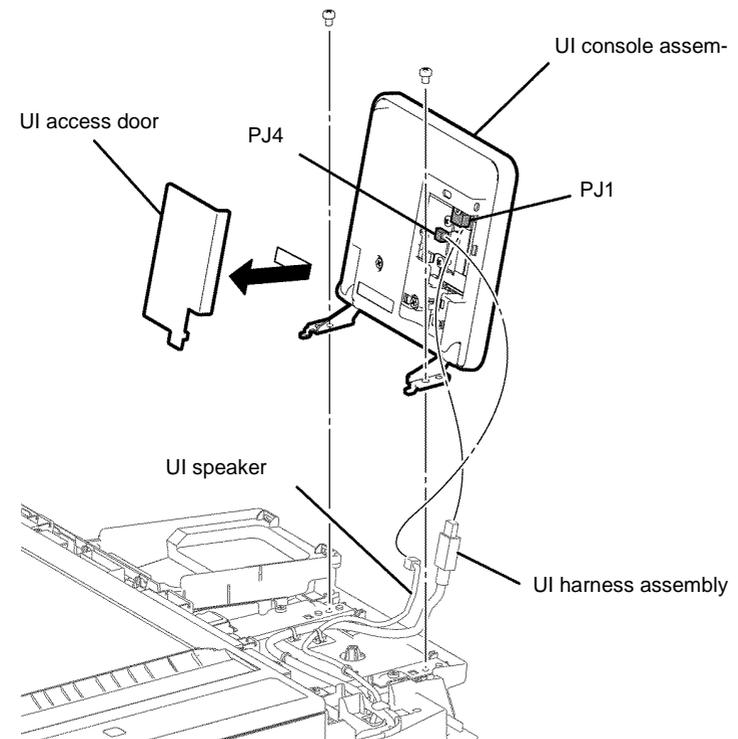

Figure 3 UI console assembly removal
6. Slide the UI access door in the arrowed direction, then remove it from the UI console assembly, Figure 3.
7. Disengage PJ1 of the UI harness assembly, Figure 3.
8. Disengage PJ4 of the UI speaker, Figure 3.
9. Remove two screws (silver, M4, 6mm), then remove the UI console assembly, Figure 3.